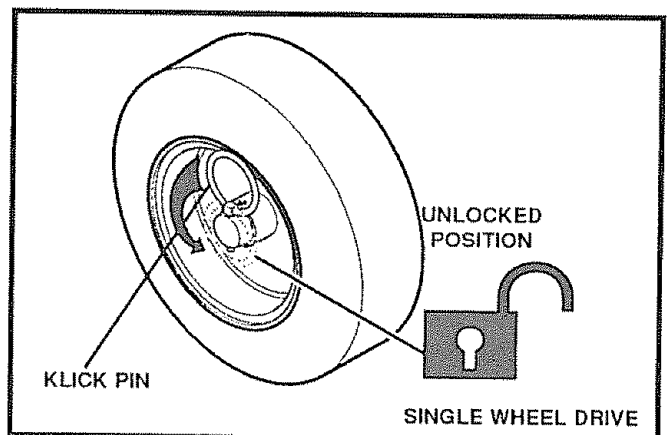

FIG. 12B
- For ease of maneuverability, in light snow conditions, disconnect the klick pin from the wheel locked position and push into the single wheel drive (unlocked axle hole only) position (See Fig. 12B).